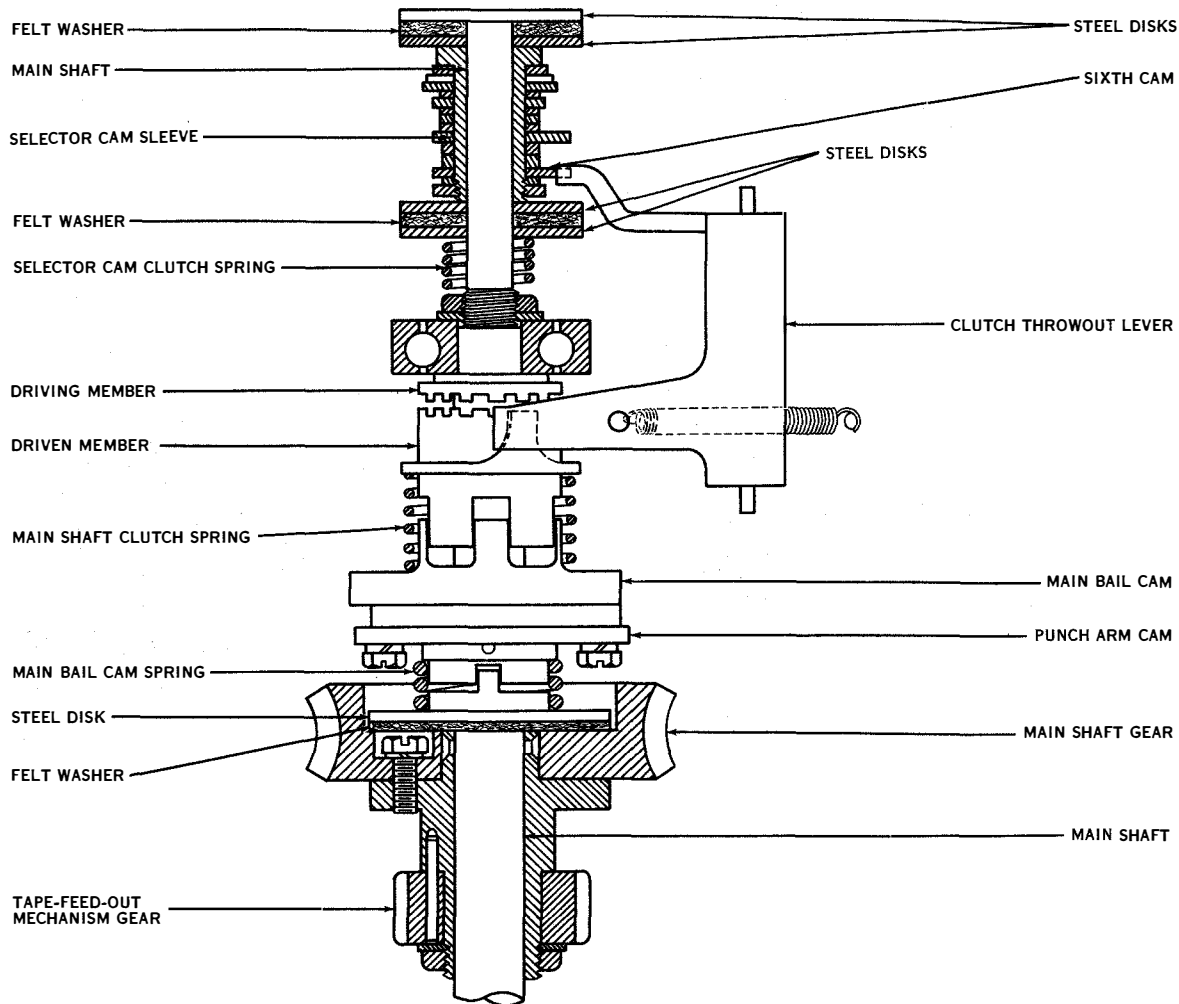

Figure 2-31. Main Shaft Assembly
(1) MAIN SHAFT.—The main shaft is mounted in a vertical position and is supported by ball bearings near its ends. The shaft is driven by the motor through the medium of a pinion and gear (see figure 2-31).
(a) Motion for the setting up of selections and the performance of all functions is derived from cams mounted on the main shaft. A selector cam sleeve is fitted over the upper end of the main shaft and is driven through a friction clutch composed of two pairs of steel disks separated by felt washers. The clutch is driven by the two outer disks which are keyed to the main shaft. The selector cam sleeve consists of a stop arm armature cam, locking cam, and six cam teeth (see figure 2-31).